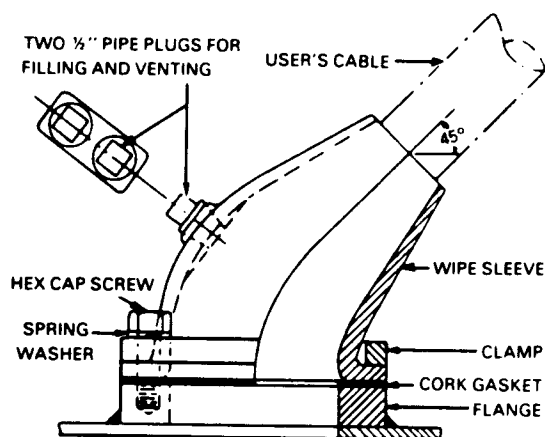

Fig. 1 Wiping sleeve (45 degree)
2. Wiping sleeves (see Figs. 1 and 2).
Cables are normally brought into a terminal chamber through wipe sleeves (Figs. 1 and 2), packing glands (Fig. 3), or other miscellaneous clamp-type connections.
Top-connected terminal chambers for paper-insulated or varnish-cambric-insulated cables should be filled with cable oil heated to 100C. Bottom-connected terminal chambers for paper or varnish-cambric insulated cables should be filled with an oil-insoluble resin compound to prevent loss of compound by migration into the cable insulation. Follow the compound manufacturer's application and pouring recommendations. A pipe plug is provided in the top of the terminal chamber for filling. On some top-connected terminal chambers with large, tapered wiping sleeves, a pipe plug may be provided in the body of the wiping sleeve for filling and venting the terminal chamber and the wiping sleeve (see Fig. 1).